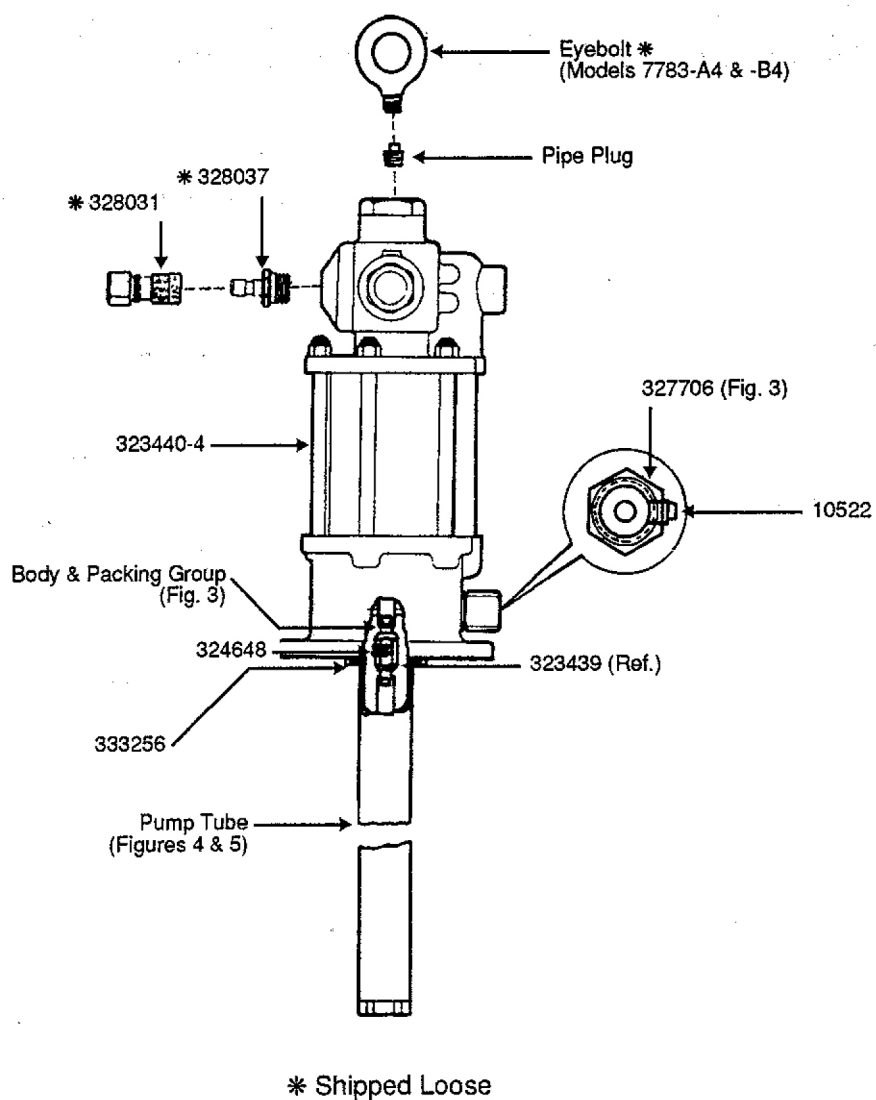

Figure 2: Components of Series 7783 Low-Pressure Fluid-Lubricant Pumps
- 1 Thread male adapter 328037 into 3/4" air inlet of air motor (**Figure 2**).
- 3 If unit is equipped with eyebolt, remove pipe plug from top of air motor and replace with eyebolt (**Figure 2**).
A. SEPARATING PUMP TUBE FROM AIR MOTOR: (Figure 2)
- 1 Unscrew and remove adapter 327706 from body of air motor assembly 323440-4 (Figure 2).